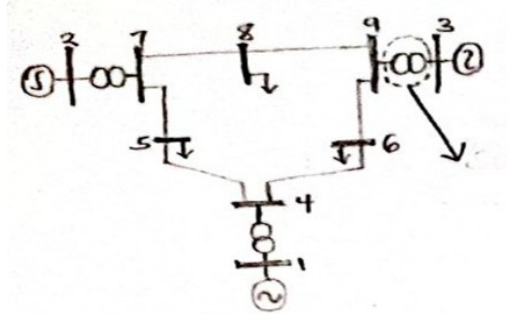

Fig Q4
- b) A rough sketch of system is shown in Fig. Q4 below: